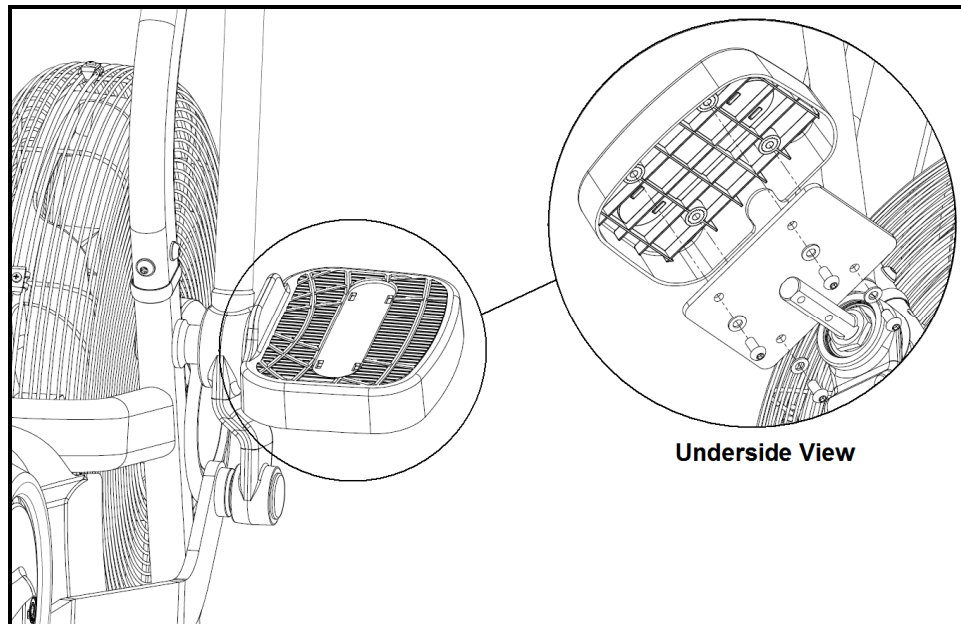

Fig. 1
1. Remove the plastic foot cover (Fig. 1) by unscrewing the four securing button head screws from the underside using a 4mm hex key.